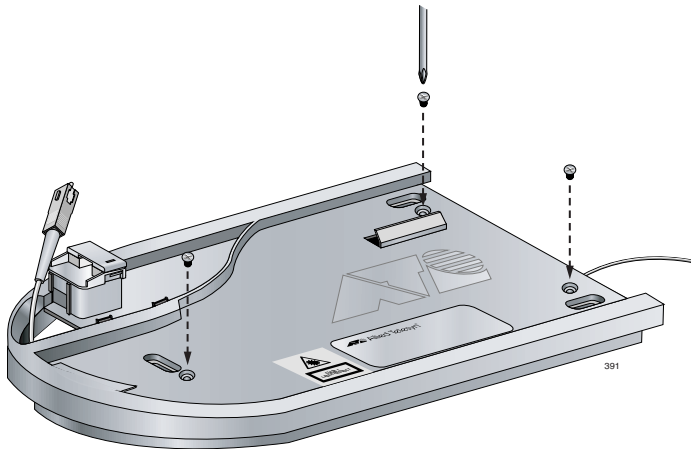

Figure 15. Attaching the Cover to the Base
11. Using a Phillips screwdriver, attach the cover to the base with three of the screws provided in the kit, as shown in Figure 15.